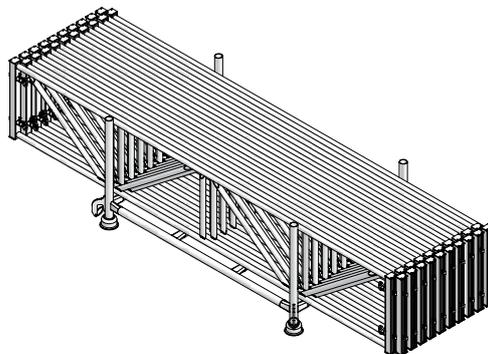

Fig. 35.5 Frames 330 MEP in piling rack
- 20 frames 330 MEP: 342 kg (Fig. 35.5)